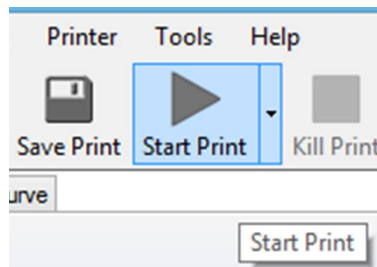

Figure 2.46: Running print job from the Repetier-Host interface
5. Click the “Start Print” button on the top menu bar (Figure 2.46). The printer will follow the instructions in the G-code to initialize its position and heat up the extruder and HBP. Once both the extruder and HBP reach their target temperature, the printer will start the print job.